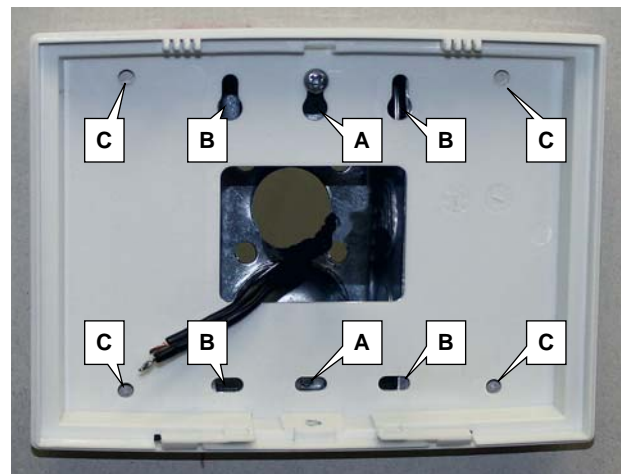

Fig. 2: Rear housing mounting holes for single-gang (A) and double-gang (B) electrical boxes, and four all-purpose holes (C)
As shown in Fig. 2, the rear housing includes two mounting holes for single-gang (A) and four mounting holes for double-gang (B) electrical utility boxes, as well as four all-purpose holes (C) for mounting to drywall or other surfaces (use minimum #6 screws suitable for the surface).